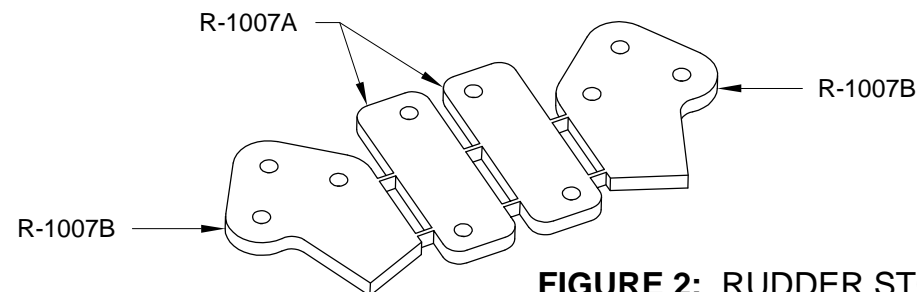

FIGURE 2: RUDDER STOP PARTS SEPARATION
Step 3: Separate the R-1007 Rudder Stop parts, shown in Figure 2, into individual components; the R-1007A Striker Plates and the R-1007B Rudder Stops. File off any remaining stubs and deburr the edges. The striker plates will be used in the rudder assembly and can be set aside for now.